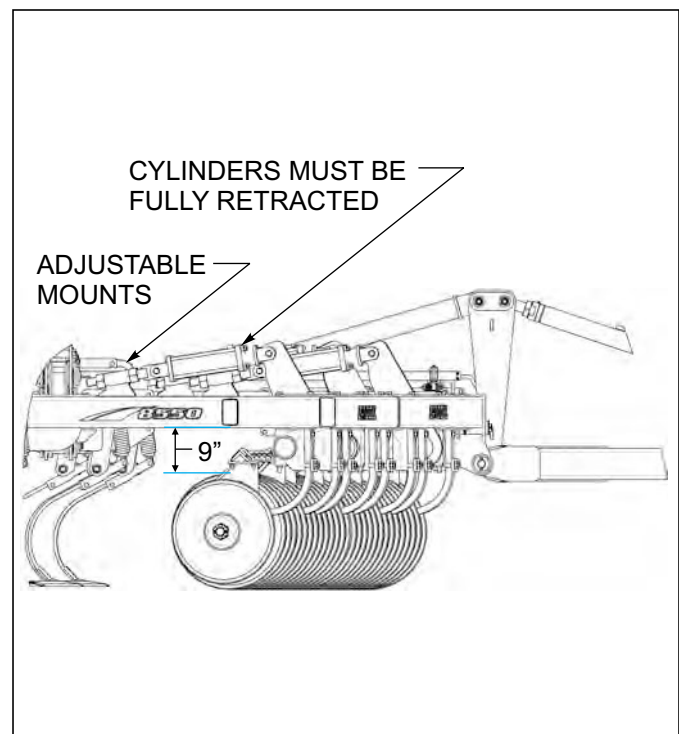

Figure 4-15: Disc Gang Operation
3. Fully retract cylinders and adjust cylinder anchor bolt until there is 9" between the top of the 22" disc gang blades and the bottom of the frame (**See Figure 4-15.**)